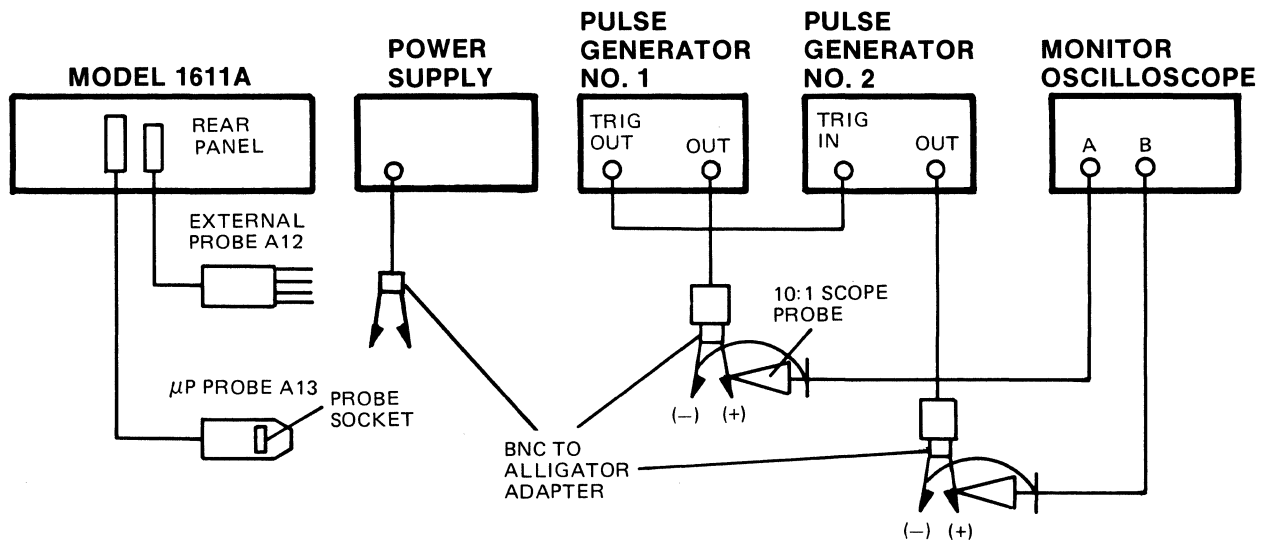

Figure 4-14. External Lines Test Setup
- a. Connect test equipment as shown in figure 4-14.